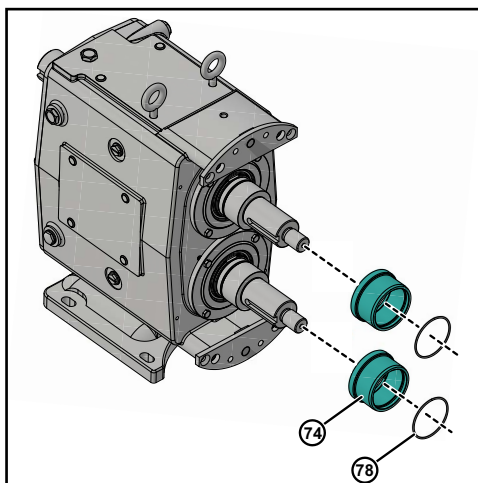

Figure 82 - Remove Sleeves and O-rings
5. Remove the two sleeves (74) along with two sleeve O-rings (78), as shown in Figure 82.